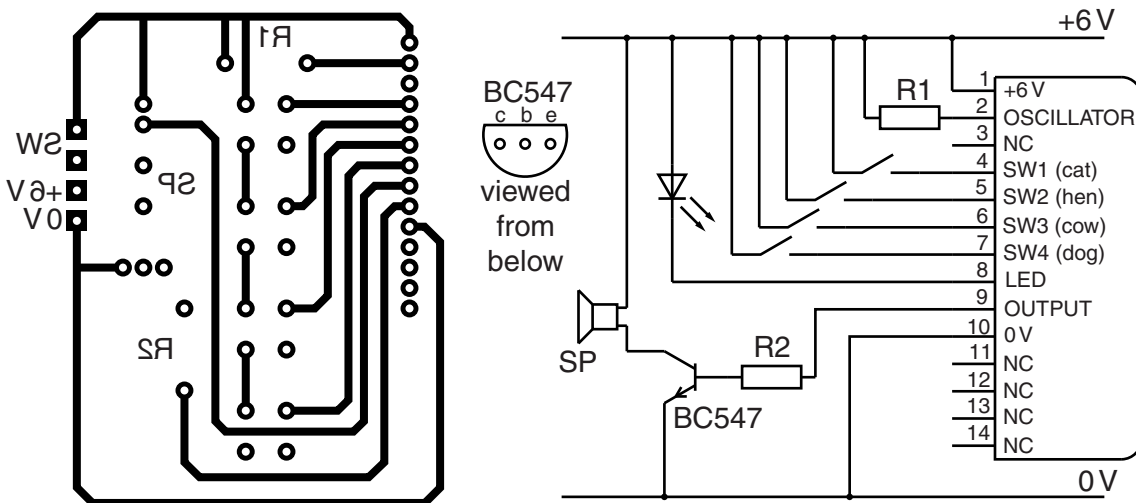

Fig. 12
- (b) A partly completed PCB layout and circuit diagram are shown in Fig. 12.